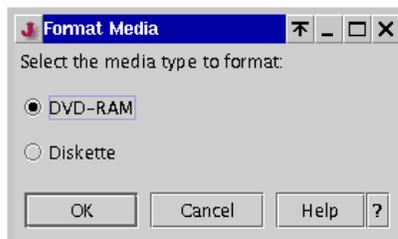

Figure 6-8 Format Media
6. Select the Format Removable Media task in the content area. This opens the Format Media window shown in Figure 6-8.